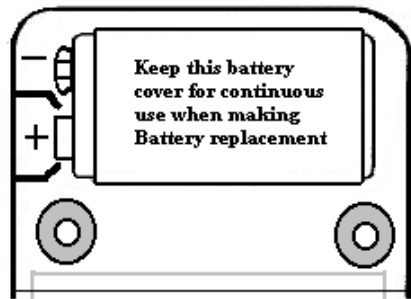

Figure 1
**Battery Replacement (refer to Figure 1)**